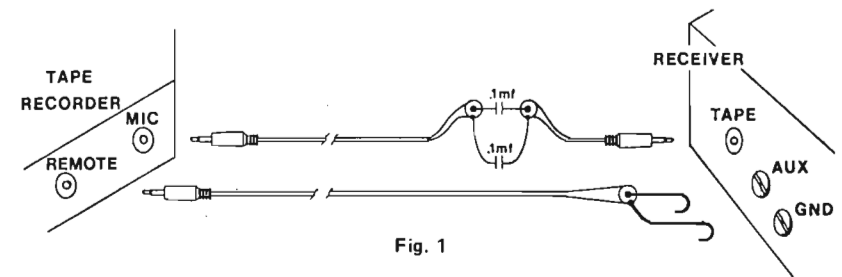

Fig. 1
2. Connect the control wires from the cassette recorder "Remote" jack to the AUX. and GND. terminals as shown in Fig. 1. If the recorder, set to "play", starts with the receiver OFF, the wires should be reversed. NOTE: Recorder should not be grounded to radio or other device in any manner.
4. Connect the Tape output of the BC-300 to the "mic" input of the recorder as shown in Fig. 1. To isolate the recorder ground from the scanner, coupling capacitors should be used in the ground and center conductors as shown. **Alternate:** Sound may be recorded by placing the microphone near the receiver speaker if preferred.